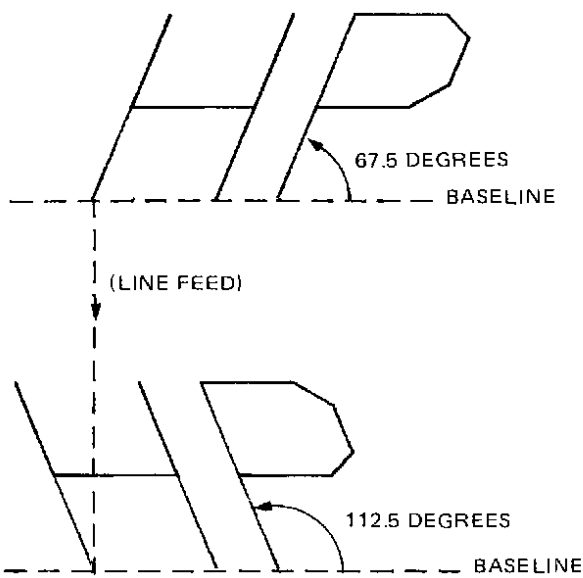

Figure 5-11. Forward and Backward Slants
Result (Refer to Figure 5-11)
**Result** The specified slant angles of 247.5 and 292.5 degrees are treated as 67.5 and 112.5 degrees, respectively. The labels appear identical to those of Figure 5-11.